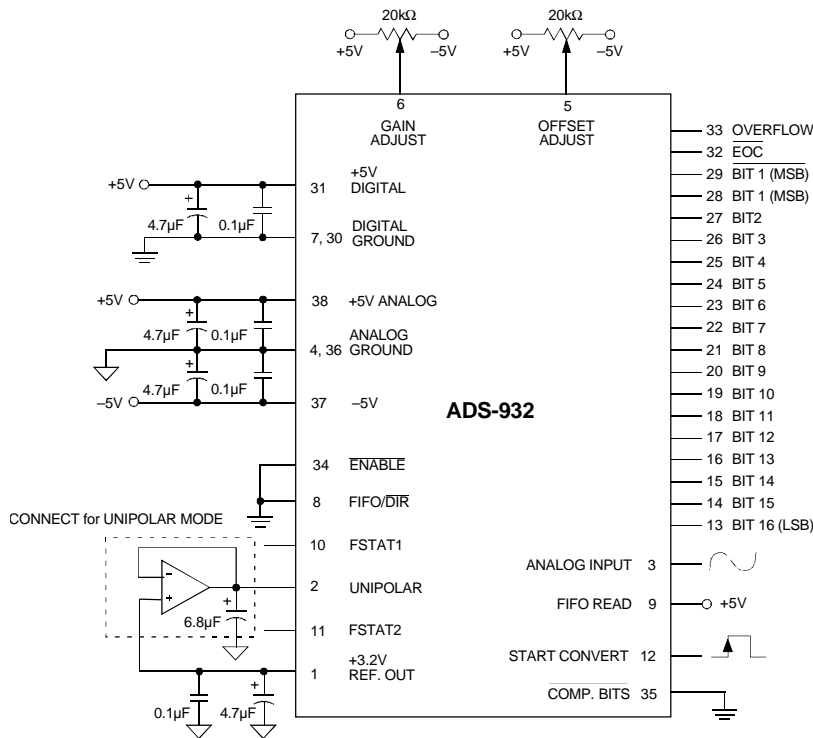

Figure 2. Bipolar Connection Diagram
2. The ADS-932 achieves its specified accuracies without the need for external calibration. If required, the device's small initial offset and gain errors can be reduced to zero using the adjustment circuitry shown in Figure 2. When using this circuitry, or any similar offset and gain calibration hardware, make adjustments following warm-up. To avoid interaction, always adjust offset before gain. Tie pins 5 and 6 to ANALOG GROUND (pin 4) if not using offset and gain adjust circuits.
Connect the converter per Figure 2. Any offset/gain calibration procedures should not be implemented until the device is fully warmed up. To avoid interaction, adjust offset before gain. The ranges of adjustment for the circuits in Figure 2 are guaranteed to compensate for the ADS-932's initial accuracy errors and may not be able to compensate for additional system errors.